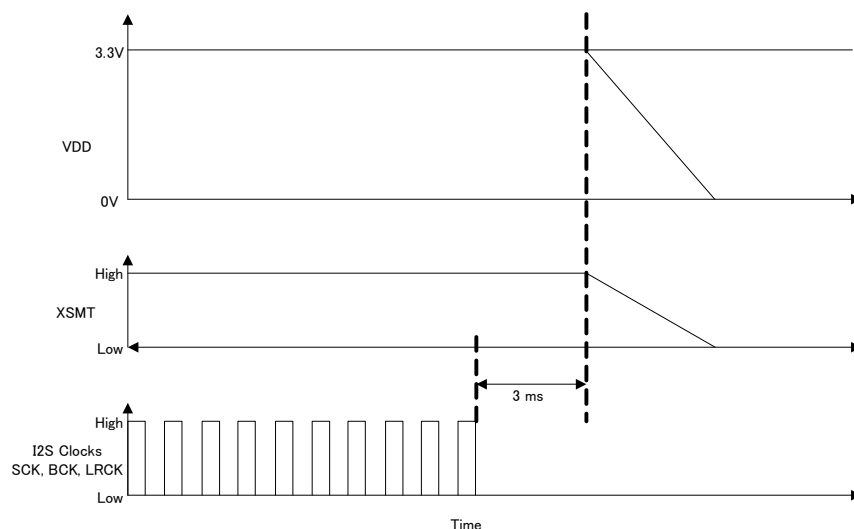

**Figure 79. Stop I²C Clocks**
2. Stop I²S clocks (SCK, BCK, LRCK) 3 ms before powerdown as shown in Figure 79.